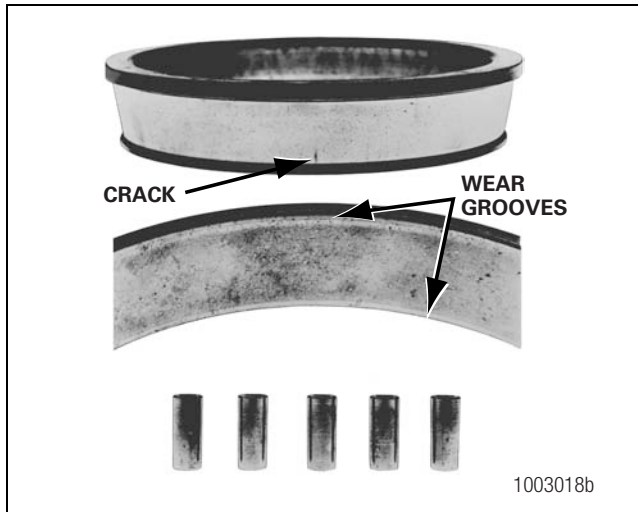

Figure 4.3
- There is a visible roller groove in the cup or cone inner race surfaces. The groove can be seen at the small- or large-diameter end of both parts. Figure 4.3.
- There are deep cracks or breaks in the cup, cone inner race or roller surfaces. Figure 4.3.